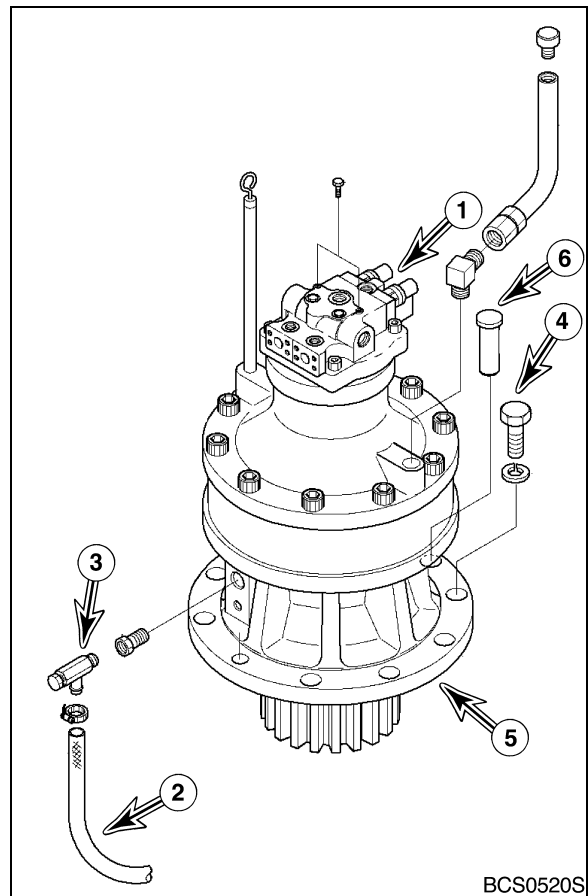

Figure 4
11. Tag and disconnect hoses from swing motor (1, Figure 4). Plug and cap hoses and port to prevent contamination from entering hydraulic system or component.
12. Disconnect tube (2) from drain valve (3)
13. Remove eleven bolts and washers (4, Figure 4) holding swing reduction gearbox (5) to frame.
14. Using a suitable lifting device, sling swing motor (1, Figure 4) and remove swing motor and reduction gearbox (5) as an assembly from unit.
NOTE: A drain valve (3, Figure 4) and tube are on side of gearbox. Be careful not to damage valve or tube.
NOTE: There is one alignment pin (6, Figure 4), on side of reduction gearbox flange.